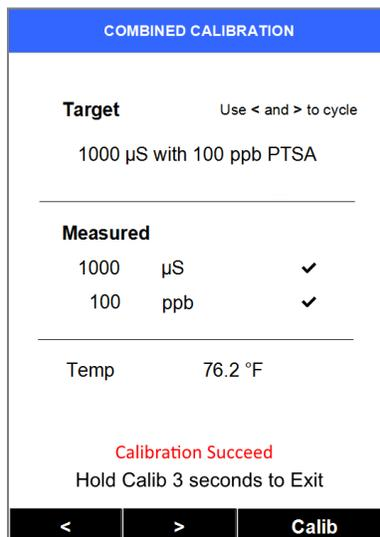

Figure 24
- 12) After a second, if the PTSA calibration is successful, the PTSA value will also be displayed in the Measured section below the conductivity value, and a checkmark will appear. A small variance is acceptable. The message "Calibration Succeed" will appear in red, as in Figure 24.